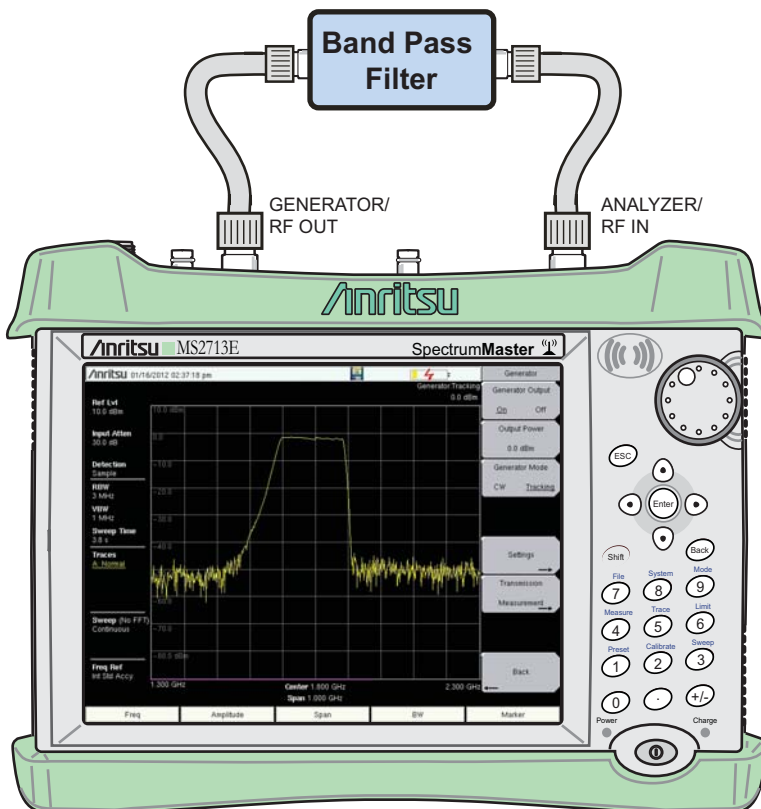

Figure 2-1. Connection of Device Under Test
3. Connect the DUT as shown in Figure 2-1 on page 2-2. For connector torque and connector care information, refer to the User Guide for your instrument.